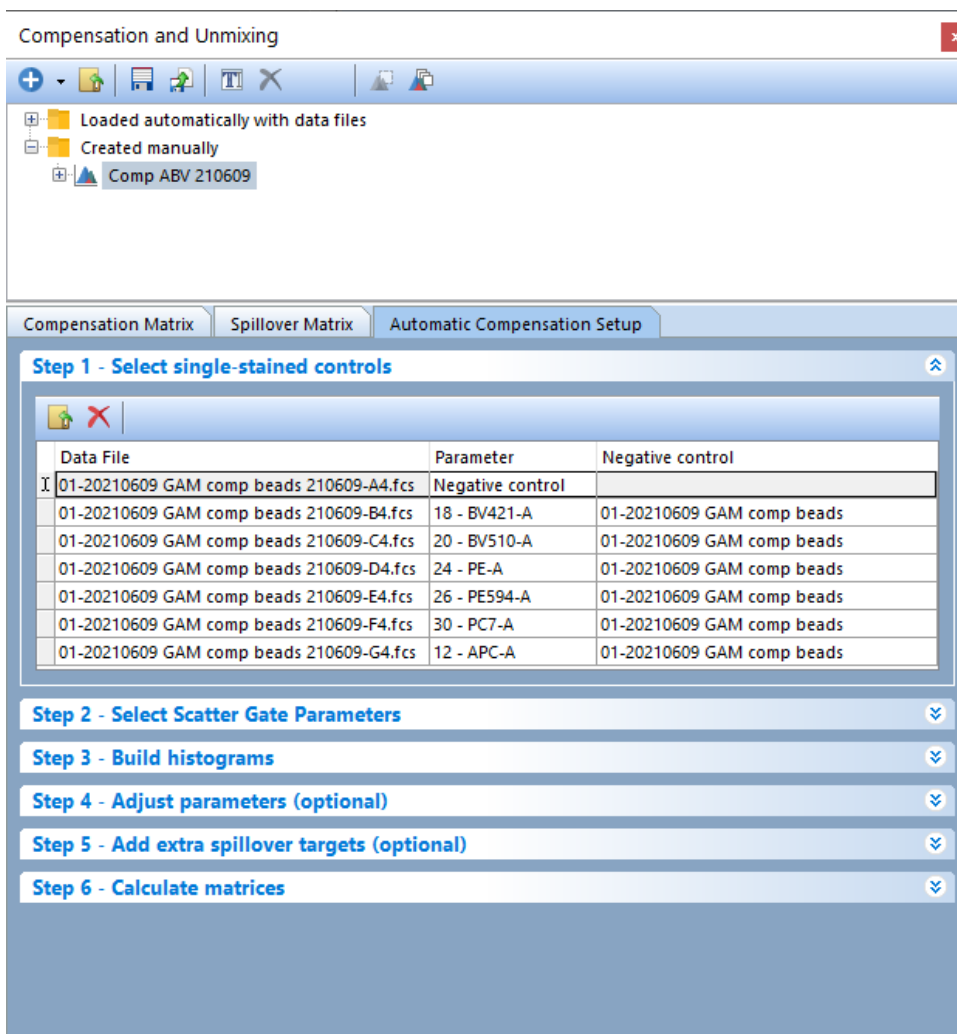

Figure 2 Files for controls have been added to Step 1 in the Automatic Compensation Setup and are matched automatically to their respective parameters.
9. The **Standard Open Data Dialog** will appear (Figure 2).
Check that all of the single-stained control files and the unstained control file have been brought into the **Select single-stained control** window and have been assigned the correct parameter and assigned a negative. You may correct the **Parameters** and define the **Negative Control** used per control as necessary. When loading a universal negative, or unstained sample, it is assigned automatically as the **Negative control** for each single-stained control (Figure 2).